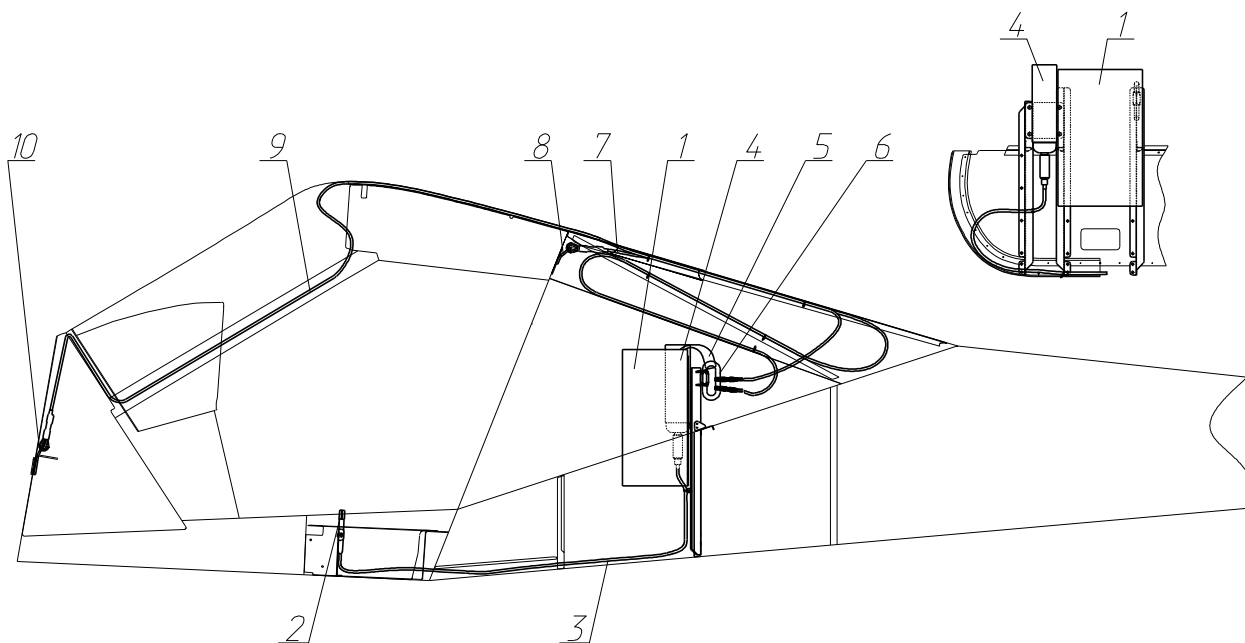

Fig. 24. Recovery system
Installation of the recovery system is shown on **Fig. 24**. The parachute packed into a soft container (1) is located behind the baggage compartment. To deploy the system pull the handle (2) of the ejection device connected with a cable (3) to the rocket housing (4). That launches the rocket which pulls out the parachute, attached with a rope (5) via a carabiner (6) to the cables (7) and (9) fastened to the attachment points (8) and (10). The locations of the attachment points and the cables' length are selected so that the aircraft when descending with deployed parachute is suspended in a certain attitude (wings level, nose lowered). Such attitude ensures a high level of safety to pilots during emergency landing despite the fact that the aircraft structure is likely to be damaged while absorbing the impact at touchdown.